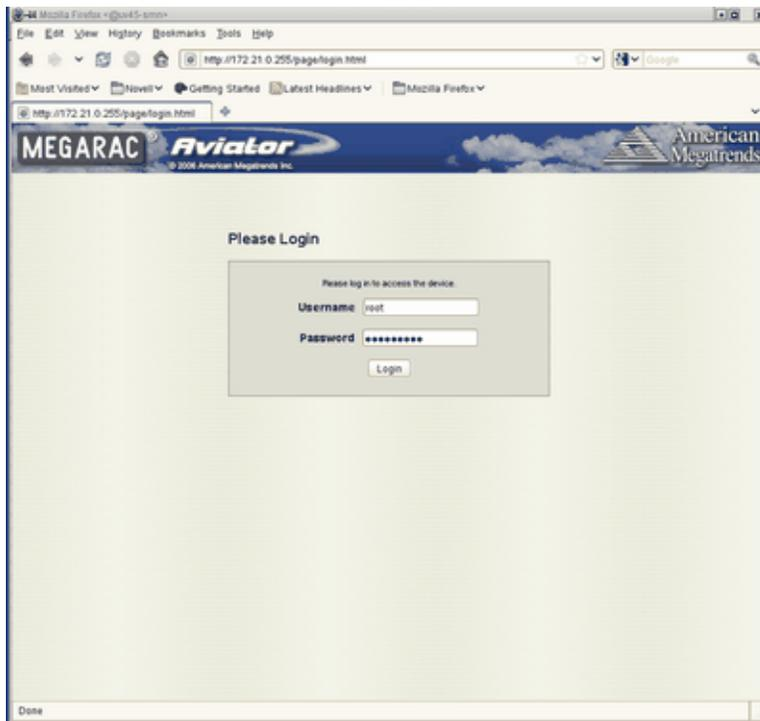

Figure 3-1 BMC Login Screen
4. The BMC login screen appears, as shown in Figure 3-1 on page 34. Login as **root** with the password **superuser**.